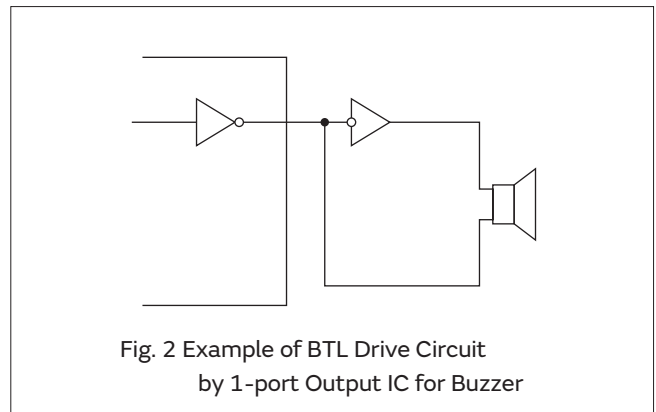

Fig. 2 Example of BTL Drive Circuit by 1-port Output IC for Buzzer
Applying DC voltage between electrodes of a piezoelectric diaphragm causes mechanical distortion due to the piezoelectric effect. For a misshapen piezoelectric element, the distortion of the piezoelectric element expands in a radial direction, and the piezoelectric diaphragm bends toward the direction shown in Fig. 2 (a). The metal plate bonded to the piezoelectric element does not expand. Conversely, when the piezoelectric element shrinks, the piezoelectric diaphragm bends in the direction shown in Fig. 2 (b). Thus, when AC voltage is applied across electrodes, the bending shown in Fig. 2 (a) and Fig. 2 (b) is repeated as shown in Fig. 2 (c), producing sound waves in the air.
- (2) In a case that is driven by IC directly like as Fig. 2, input voltage of Piezoelectric sound components should be twice as high because of the BTL (Bridge Tied Load) drive circuit, which includes an inverter.